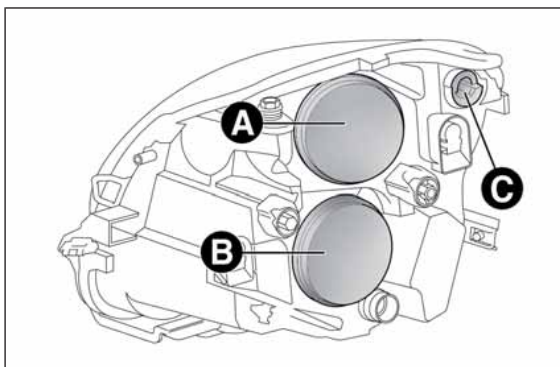

fig. 132
- release connector A fig. 132 and disconnect tube B;
These contain the bulbs for the side lights/daytime running lights (DRL), dipped beams, main beams and direction indicators. The bulbs are arranged as follows fig. 132:
- remove cover A fig. 132;
- refit cover A fig. 132.
- remove cover B fig. 132;
- refit cover B fig. 132.